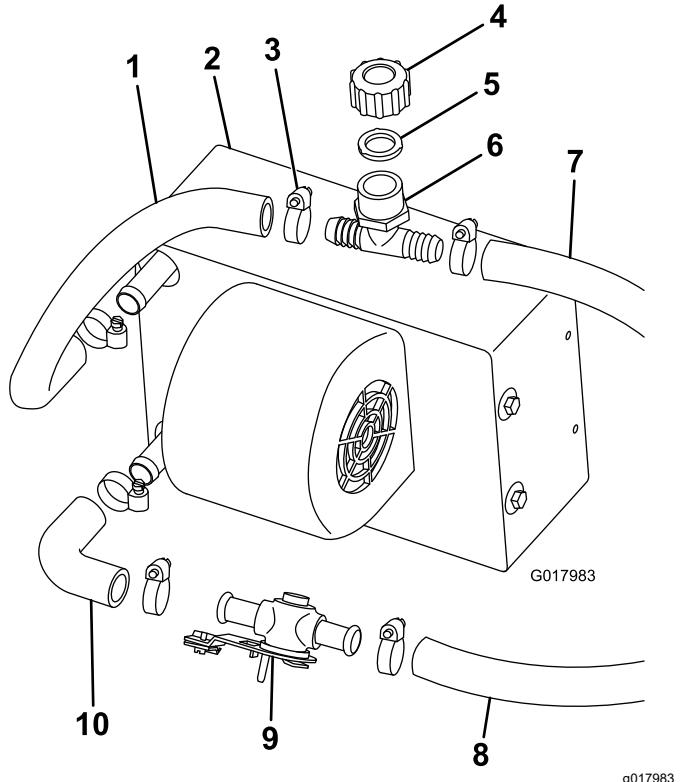

Figure 20
1. Attach the elbow hose to the bottom fitting of the heater assembly with a hose clamp (Figure 20).
2. Connect the heater valve to the elbow hose with a hose clamp (Figure 20).
- Cut a 36 cm or 14 inch piece of hose (5/8 inch) and attach it to the top fitting of the heater assembly with a hose clamp (Figure 20).
- Connect the white fill tee, gasket, and cap to the upper heater hose with a hose clamp (Figure 20).